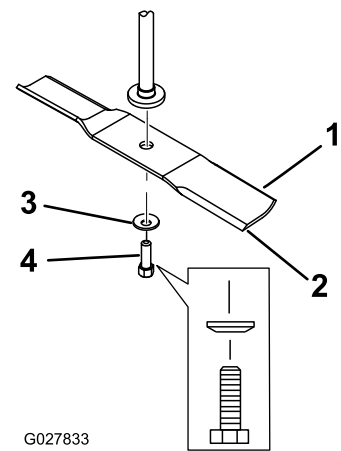

Figure 49
2. Remove the blade bolt, the curved washer, and the blade from the spindle shaft (Figure 49).
1. Install the blade onto the spindle shaft (Figure 49).
2. Install the the curved washer (cupped side toward the blade) and the blade bolt (Figure 49).